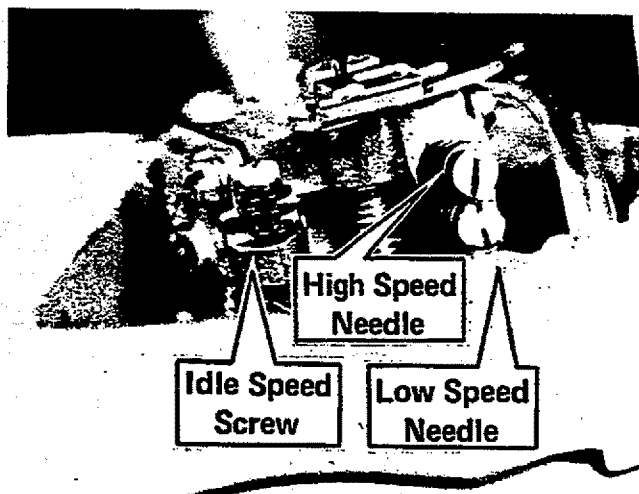

Fig. 7
Step 1. (Refer to Figure 7) — Remove carburetor cover. Turn high speed and low speed needles clockwise until they stop. Remember! Don't Over-Tighten.
Step 9. (Idle Speed Adjustment) — Turn the idle speed screw (Figure 7) clockwise until the chain begins to move. Now slowly turn idle speed screw counterclockwise until chain stops moving.